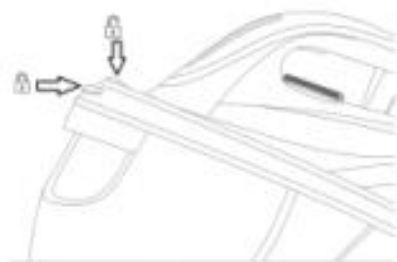

fig.3
*For dry ironing (no steam), do not press the steam trigger (D)
Pressing the steam trigger (D) (fig.3) twice quickly, activates the steam ejection mode. The temperature control knob (C) must be set to level 3 or higher.
6. After use, turn the temperature control knob (C) to the "0" position.
8. Make sure the water tank (H) is empty after each use.